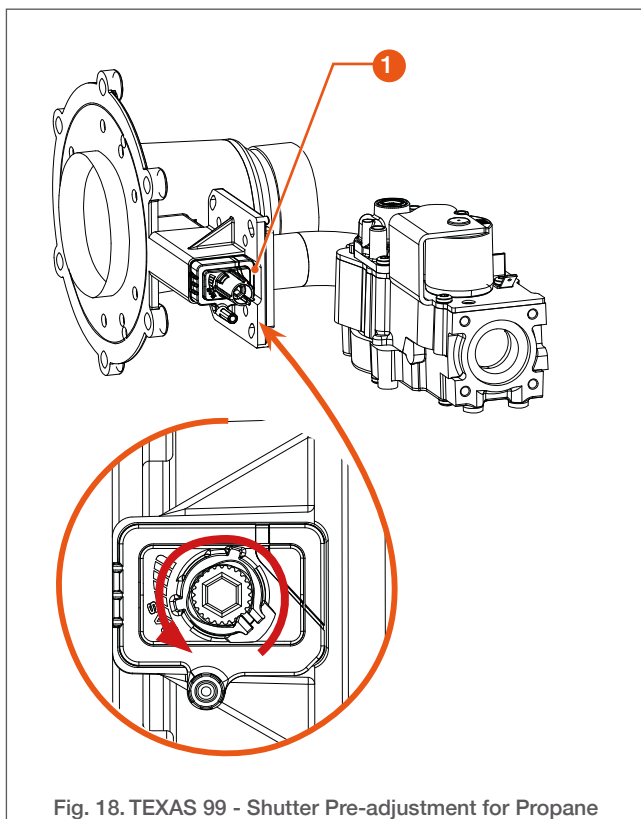
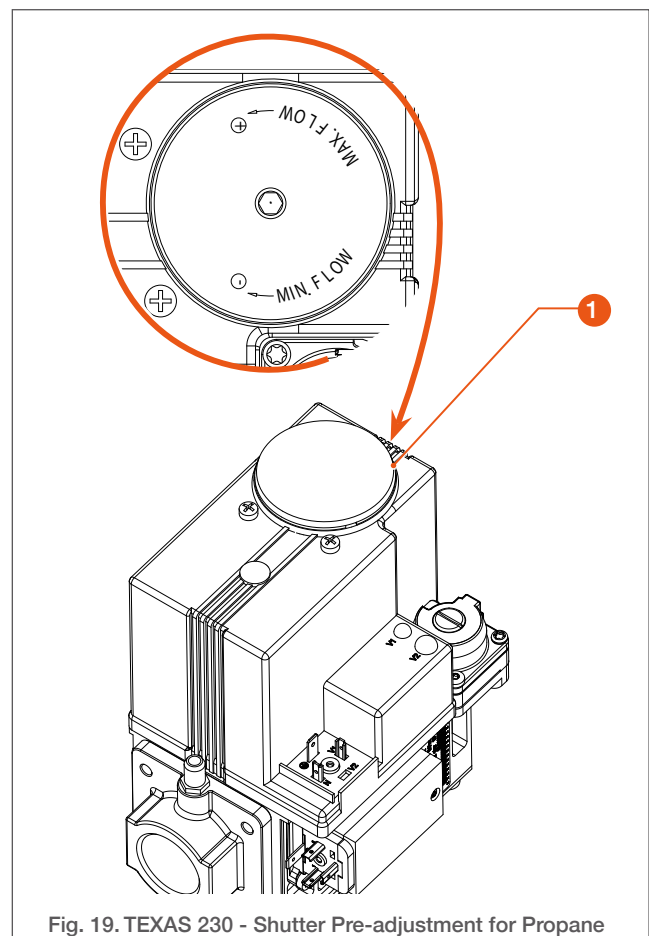

Fig. 18. TEXAS 99 - Shutter Pre-adjustment for Propane
Fig. 19. TEXAS 230 - Shutter Pre-adjustment for Propane
4. **Conversion to Propane only:** rotate the gas valve shutter screw (1) as shown in Fig. 18 & Fig. 19 below: